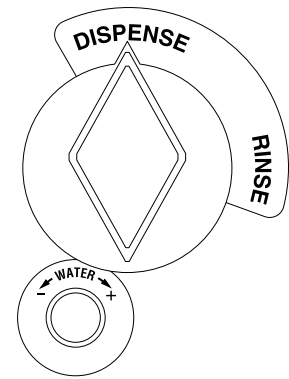

FIG 6 Dispense/Rinse Switch
1. Open the refrigerated compartment's door to access the "DISPENSE/RINSE" Knobs Fig 6.
8. Remove the DISPENSE/RINSE knobs Fig 6, all dispense nozzles, the 2 screws securing the cover to the dispense platform, and the cover.